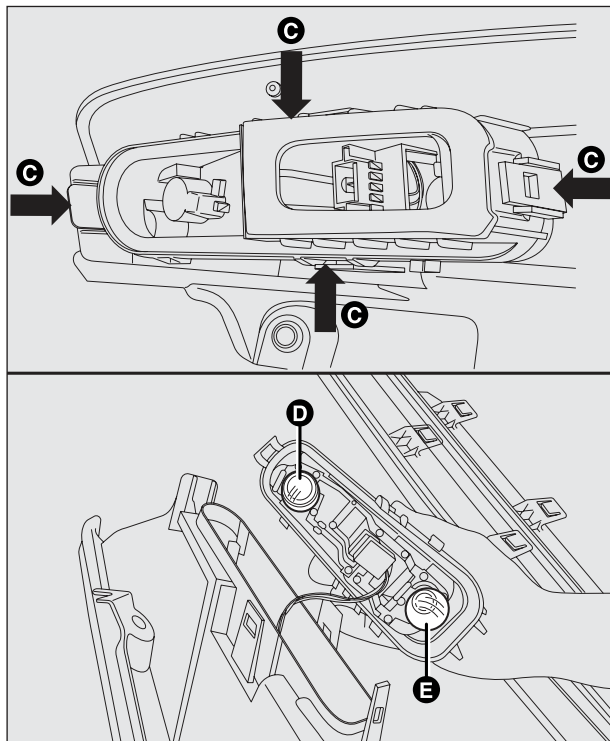

fig. 170
- ☐ unhook the bulb holder by unclipping the fasteners C-fig. 170;